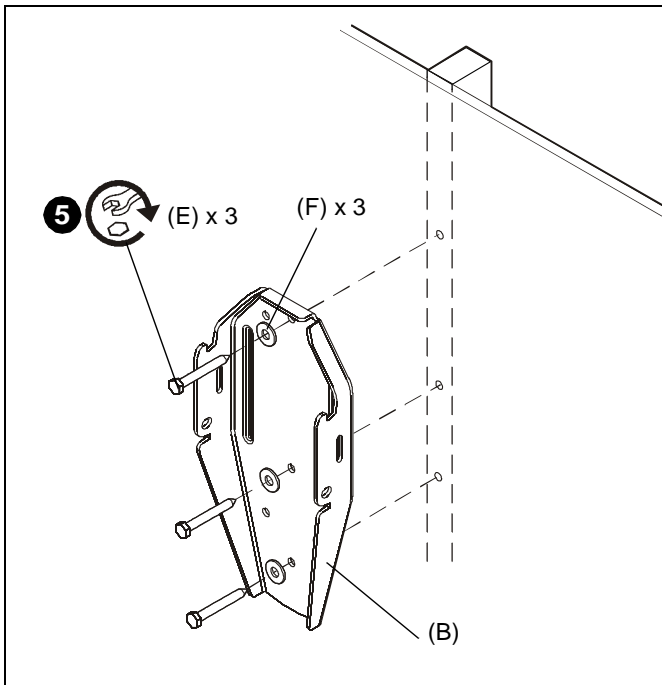

Figure 4
5. Install three 5/16 x 2-1/2" hex head lag screws (E) through three 5/16" washers (F), inner holes of mounting bracket and into drilled holes. (See Figure 4)